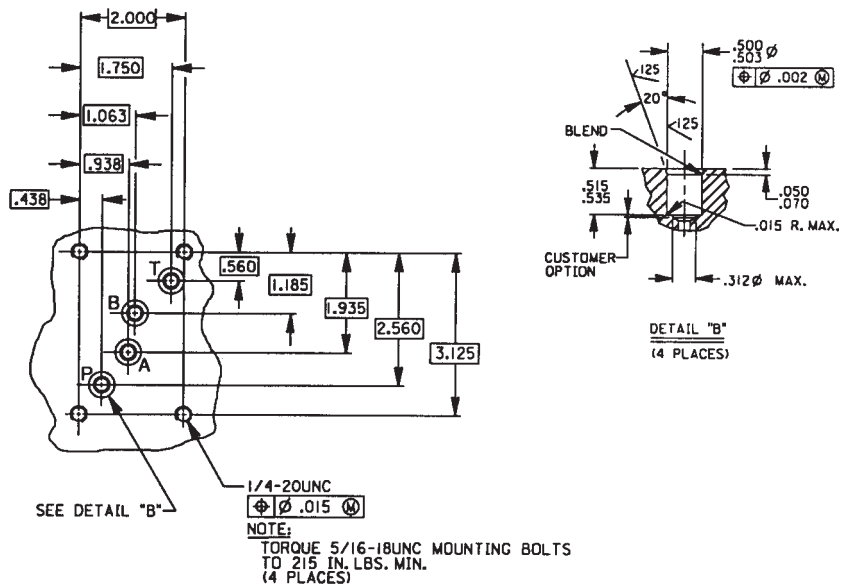

FIGURE 2
2. Refer to Figure 2 for mating hole pattern and valve function.